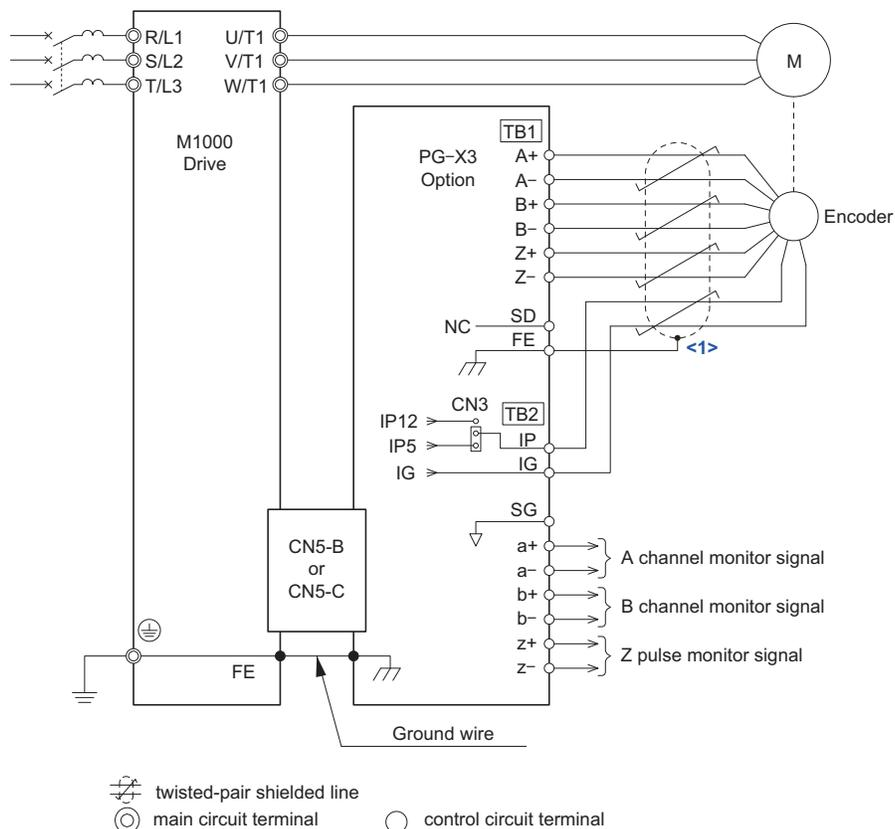

Figure 41 PG-X3 Option and PG Connection Diagram
- Wire the motor PG encoder to the terminal block on the option. Refer to **Figure 41** for wiring instructions. Refer to **Table 85 on page 191** for a detailed description of the option board terminal functions.